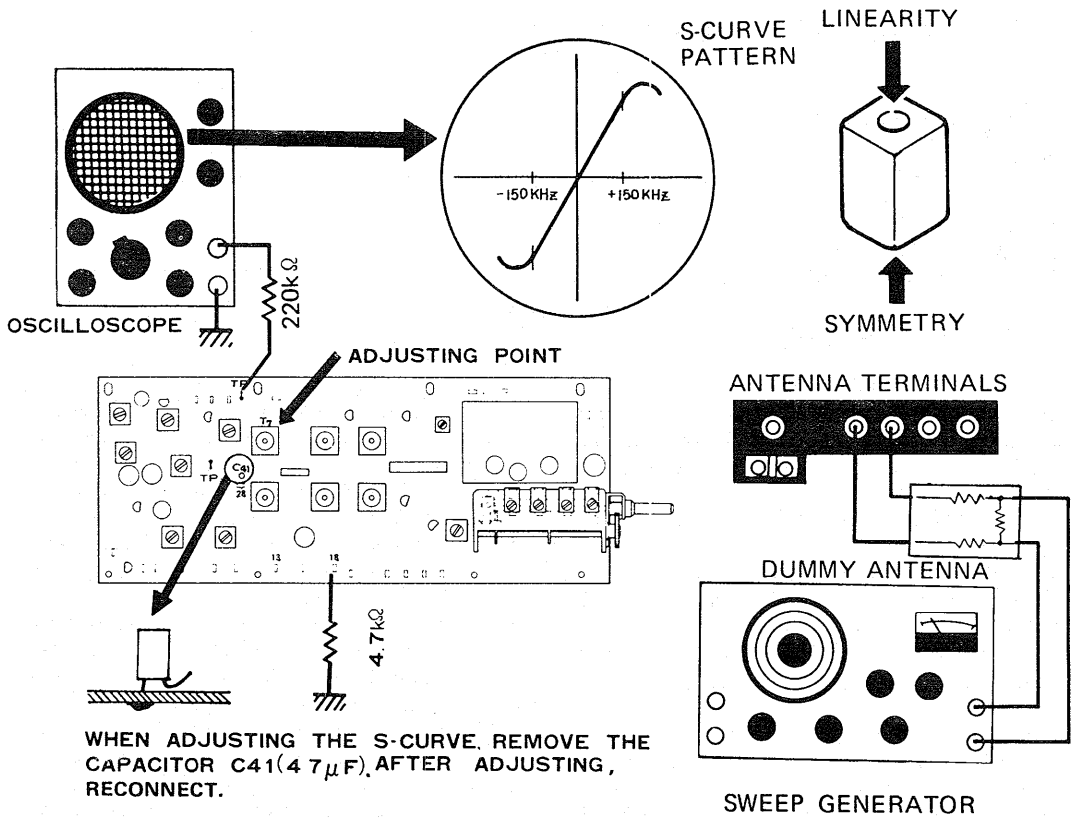

Fig. 8
- k) Disconnect the vertical input of oscilloscope from the FM meter output terminal, reconnect to TP1 (Fig. 8).
- l) Observe the S-curve pattern when adjusting the cores of the FM IFT T7, (Linearity is improved by the primary core; symmetry by the secondary core.) (Fig. 8).